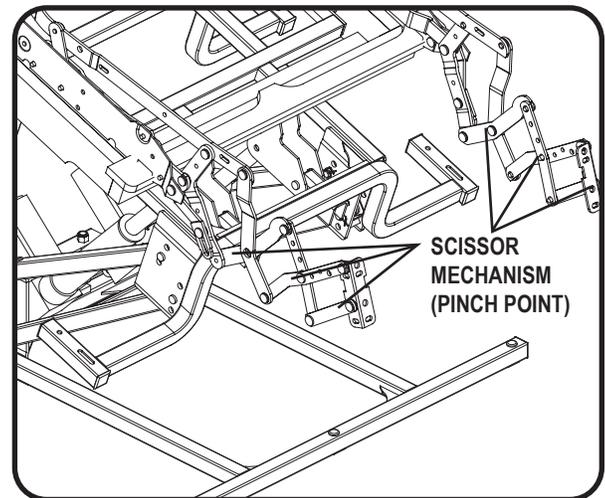

Figure 3.3 Scissor Mechanism
**Scissor Mechanisms:** Extend or retract to take the power lift recliner through the various stages of recline (**Fig. 3.3**).